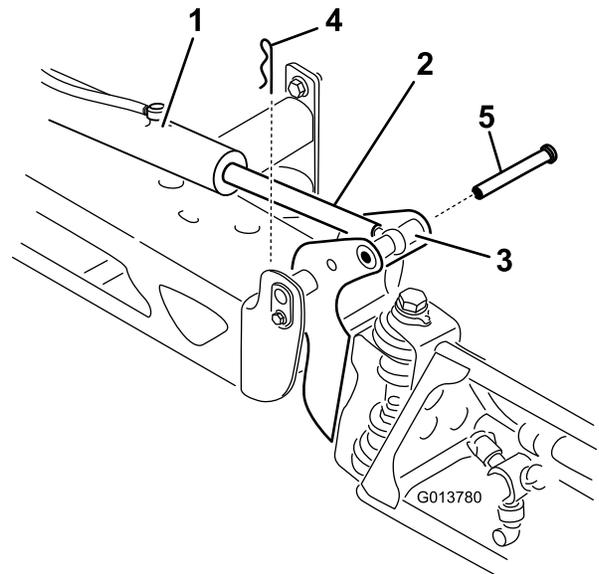

Figure 64
2. Remove the cotter pin from the pivot pin (Figure 64).
- Lift up on the boom and remove the pin (Figure 64). Slowly lower the boom to the ground.
- Raise the boom to align the pivot with the actuator rod. While holding the boom, insert the pin through both boom pivot and actuator rod (Figure 64).